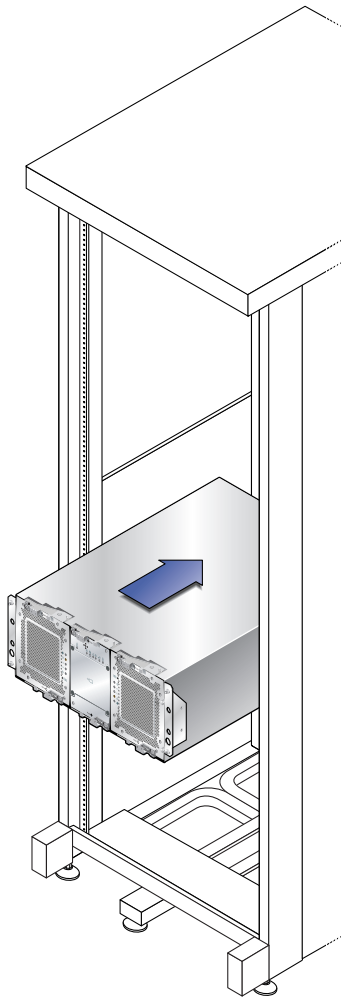

FIGURE 2-12 Sliding the Tray Into the Cabinet
2. Carefully slide the tray into the cabinet until the front flanges of the tray touch the vertical face of the cabinet (FIGURE 2-12).